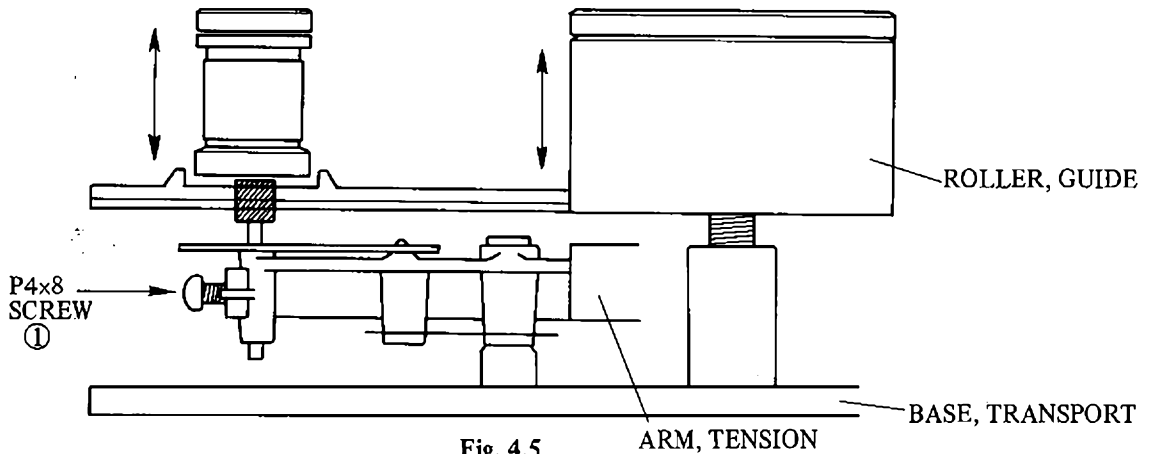

Fig. 4.5
If the tape moves up and down on the Guide roller (take up side) and the Footage roller (supply side) as shown in the Fig. 4.5 when repeated F. FWD and RWD modes, in other words, the position of tape path on the Rollers at F. FWD and RWD modes becomes different, the height of Tension arm will have to be adjusted by loosening the screw ① shown in the Fig. 4.5.